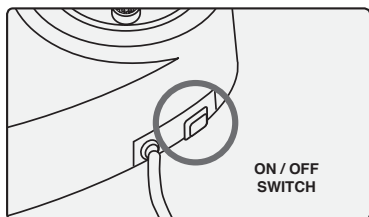
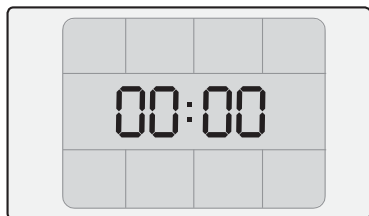

Figure 29
Figure 30
2. Turn the appliance on by pressing the start /stop switch (Figure 29). The appliance carries out a self-test with the digital display reading 00:00 (Figure 30).